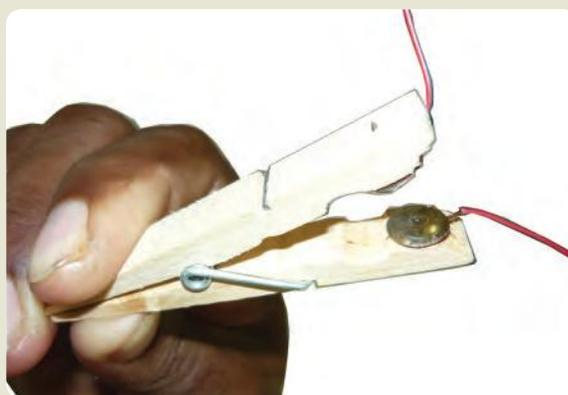

Figure 8.15 Two drawing pins on a clothes peg
- 2 Hammer the two drawing pins tightly onto the arms of the clothes peg, as shown in Figure 8.15. The peg opens and closes. The heads of the drawing pins can touch. This makes a simple switch. Use a piece of card to slide between the drawing pins. This opens the switch.